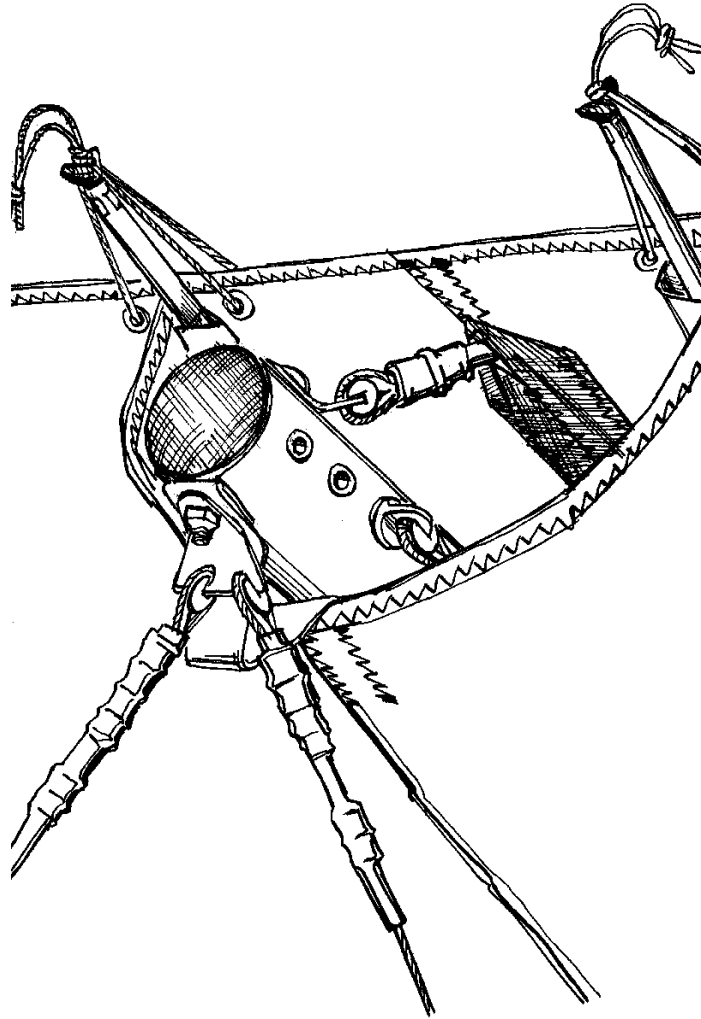

Fig.33
3.9. Check that the top rear wire, the keel mount webbing, and bottom rear wires are safely secured to the keel tube using the nut and the safety ring (Fig.33).
3.11. Check that the bolt of the crossbar tension wires is secured by the nut and safety ring (see Fig.33).